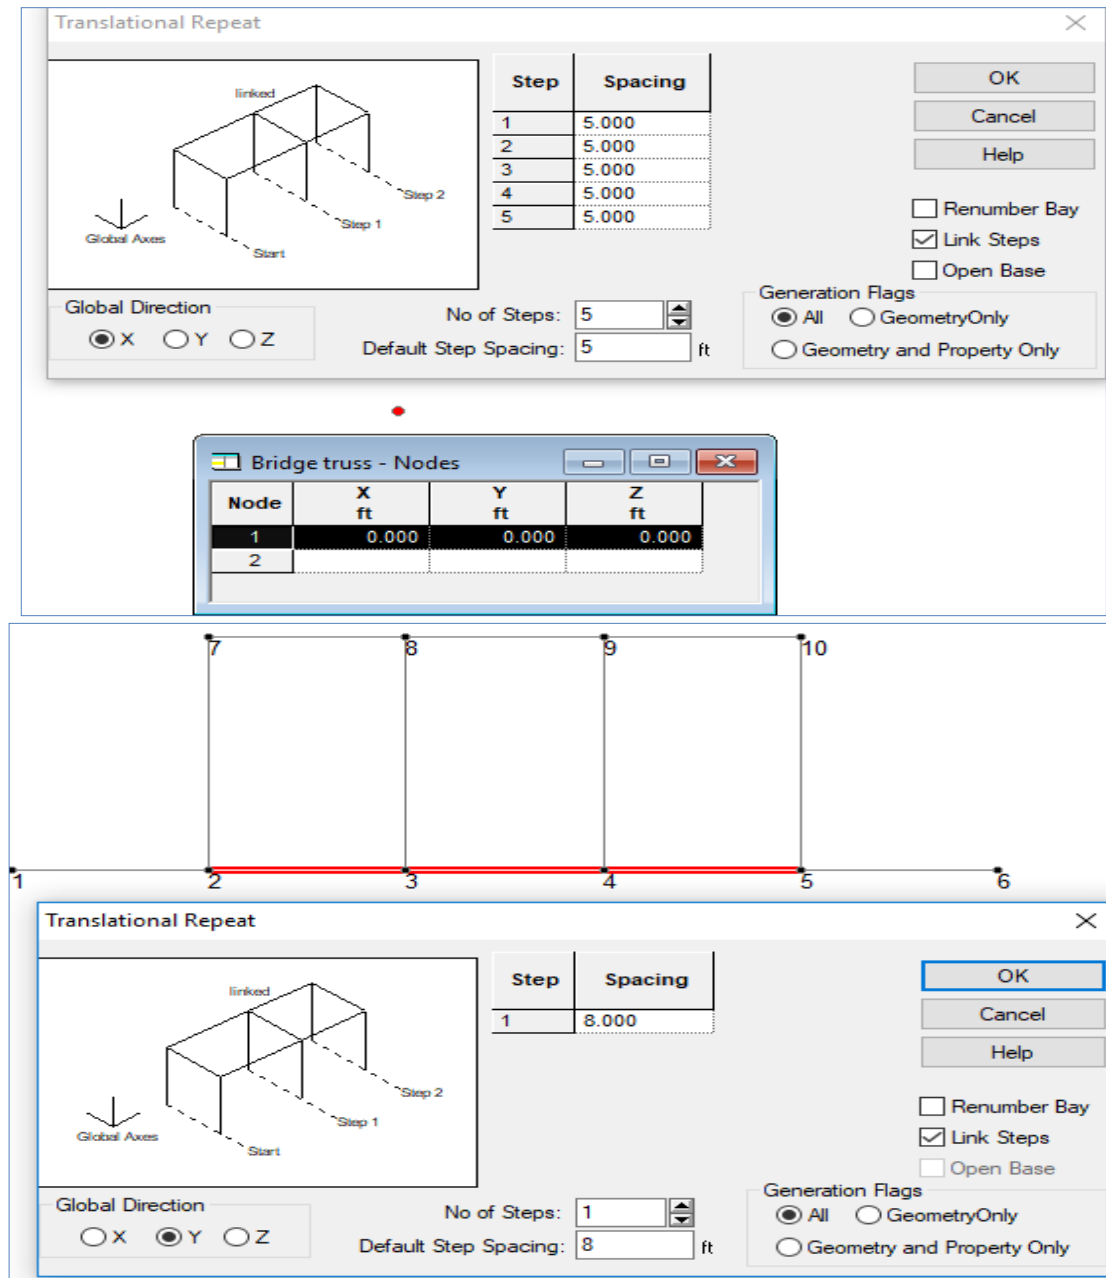

Fig: 4.20
- 1.2 Now close the Default Grid window → For 1st Node point input ($X=0, Y=0, Z=0$) → Select Node (in View window) by using node cursor → Translational Repeat → Global Direction =X → No. of Steps = 6 → Spacing=10 → Click on Link Steps → OK. Again select the members 2 to 5 → Translational Repeat → Global Direction =Y → No. of Steps = 1 → Spacing=12 → Click on Link Steps → OK. (Fig: 4.20)